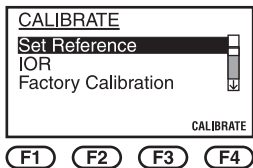

Figure 5-2. Highlighting Set Reference.
3. Press the up- and down-arrow keys until **Set Reference** is highlighted. See Figure 5-2.